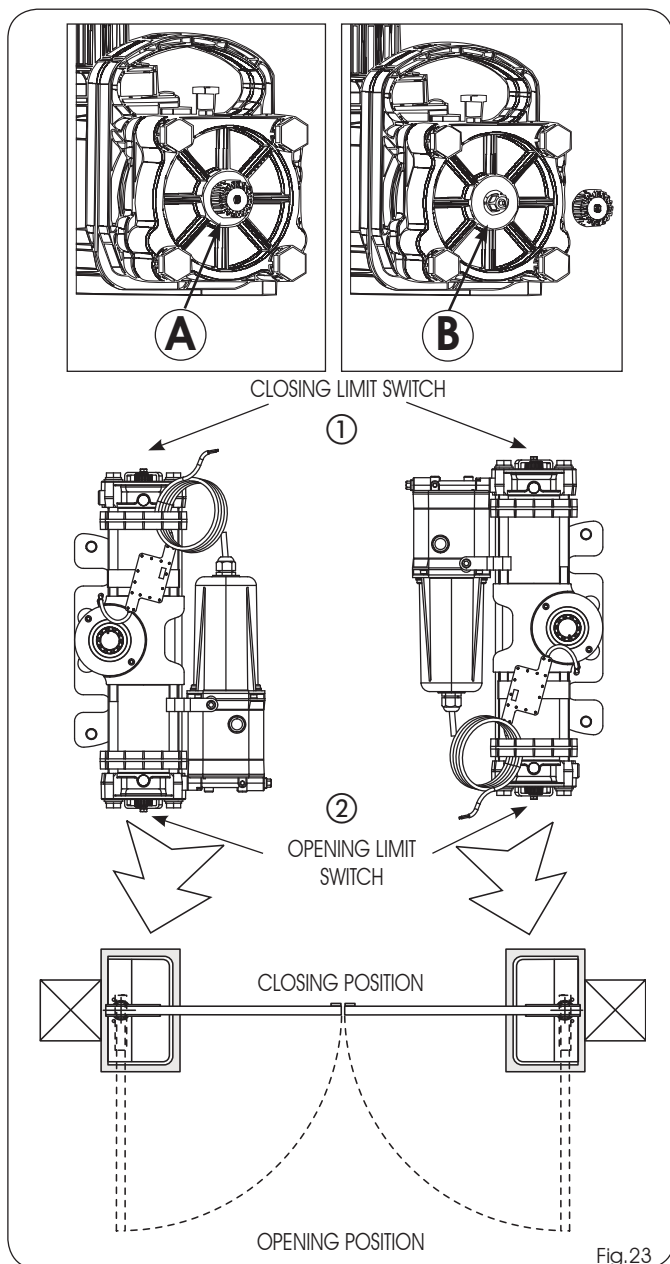

Fig.23
- 3) Unscrew the cap (Fig.23 ref. A-B) of the closing limit switch screw (Fig.23 ref.①).
- 4) UNSCREW the closing limit switch screw (Fig.23 ref.①), until the leaf appears to be moving.
- 5) Screw the cap (Fig.23 ref. A) of the limit switch screw back on.
- 7) Unscrew the cap (Fig.23 ref. A-B) of the opening limit switch screw (Fig.23 ref.②).
- 8) UNSCREW the opening limit switch screw (Fig.23 ref.②), until the leaf appears to be moving.